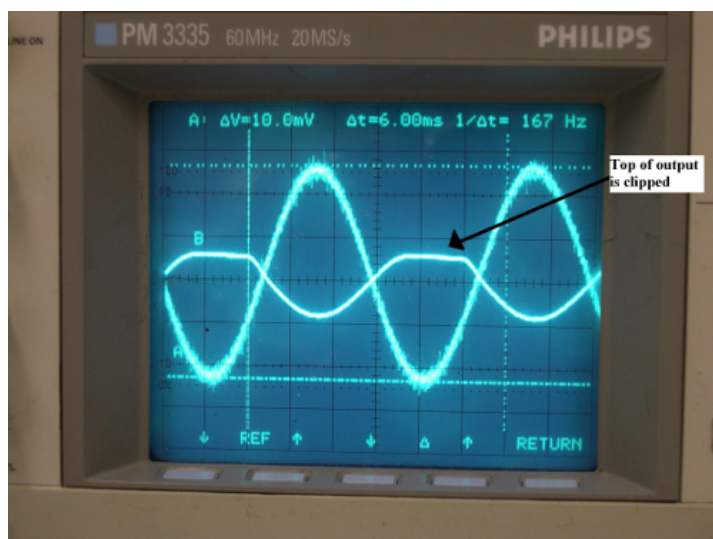
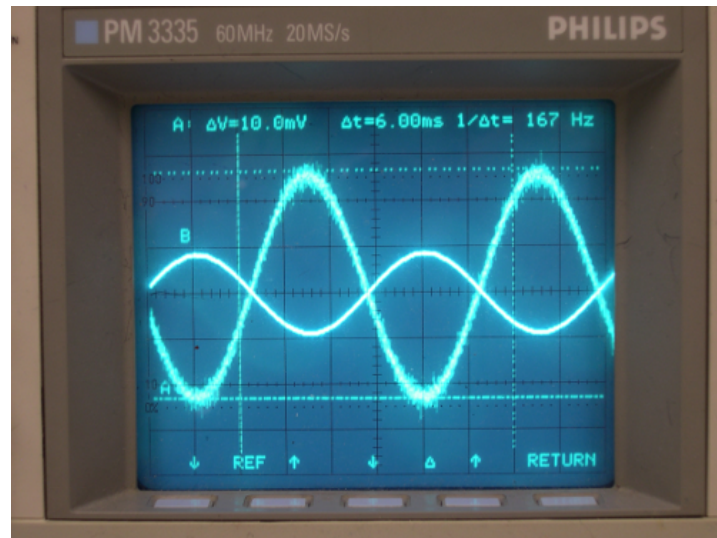
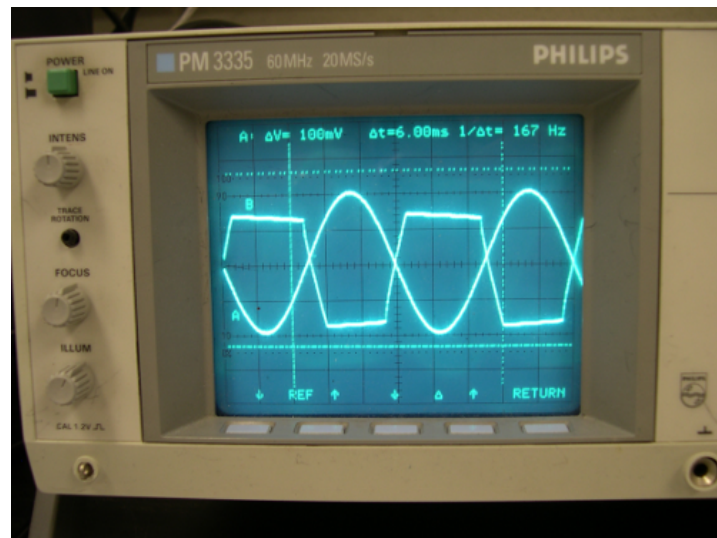

Figure 6.9: Output of amplifier is clipped.
Figure 6.10: After adjusting OFFSET knob, output is no longer clipped.
Figure 6.11: Top and bottom of output are both clipped (check input voltage and gain setting on the amplifier).
4. If during any of your measurements the output signal looks clipped (that is, either the top or the bottom is cut off as in Fig. 6.9), you will have to adjust the OFFSET knob, until the entire signal is visible (see Fig. 6.10). Notice the amplifier output on the screen of the oscilloscope appears smaller than the input. This is because the voltage sensitivity for the output and the input are NOT set to the same level. If both the top and bottom are cut off (see Fig. 6.11), you most likely have the amplifier set to high gain, so switch it back to low gain.